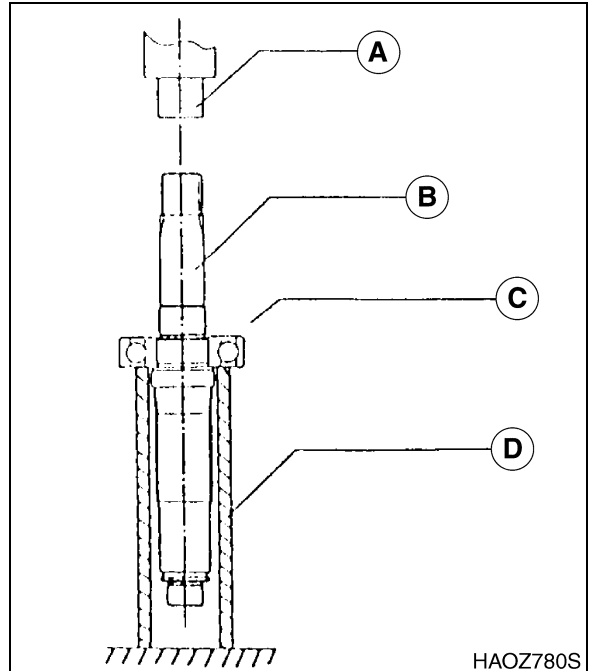

Figure 38
- Putting clamping metal fitting {II} (D) on the press work bench, and put shaft into it.
- Remove deep ditch ball bearing (C, Figure 38) (149) with holding down the shaft tip (B) parts by a press (A).